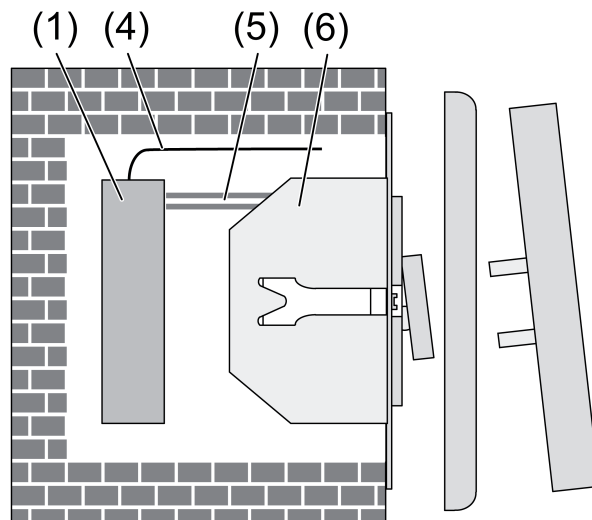

Figure 5
The transmitter is installed behind a potential-free switch or button (6) in a appliance box (Figure 5).